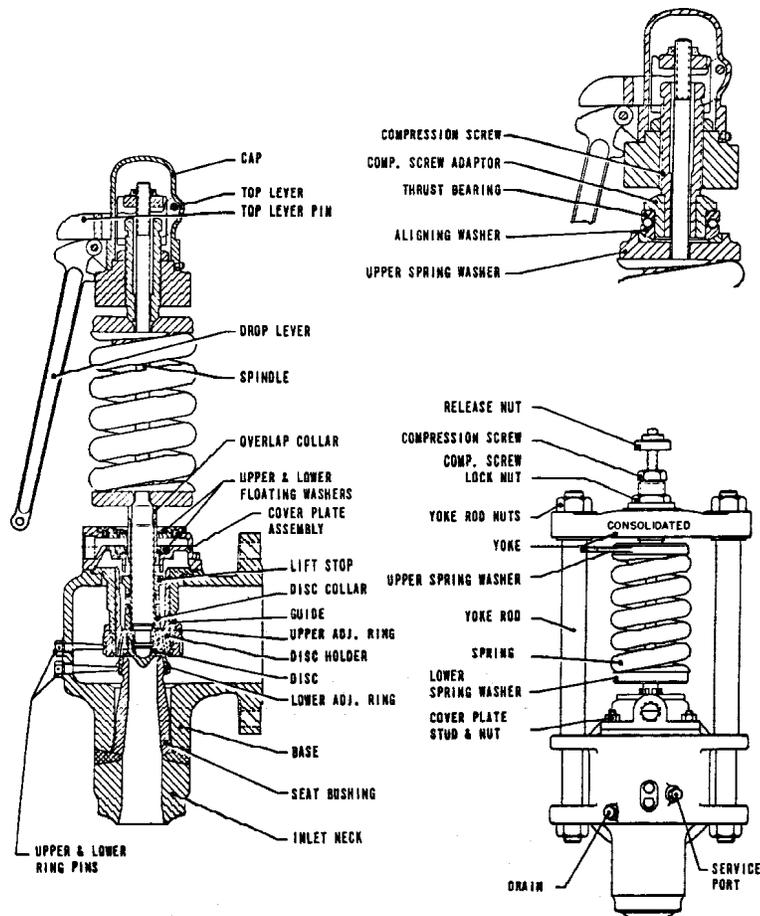

FIGURE 7
3. Always be certain that all parts are clean and free of dirt and foreign material. Dirt trapped on seating surfaces or in the inlet, when the valve is reassembled, will damage the seats. Reassemble the valve as outlined in Section XIII of this manual. The lug on the top spring washer should be on the left side of the valve when facing in the same direction as the outlet. (See Figure 7, below.)
5. Remove the top lever from the cap, and reassemble in position in accordance with Figure 7. If properly positioned, the top lever should have 1/8" (3.175 mm) of vertical movement prior to engaging bottom surface of release nut. The valve is now ready for the initial field test, on steam, to check valve set point and blowdown.
3. Remove the seal peel preservative from the disc and thoroughly clean the disc seat with a clean cloth. Then, lap the disc and bushing seat. Lubricate the spindle tip with "Anti-Seize", and assemble the disc and disc holder to spindle by turning the disc clockwise until the dropout thread disengages. Reassemble the valve as outlined in Section XIII of this manual. The lugs on the top spring washer should be on the left side of the valve when facing in the same direction as the outlet. (Again, see Figure 7 on the preceding page.)